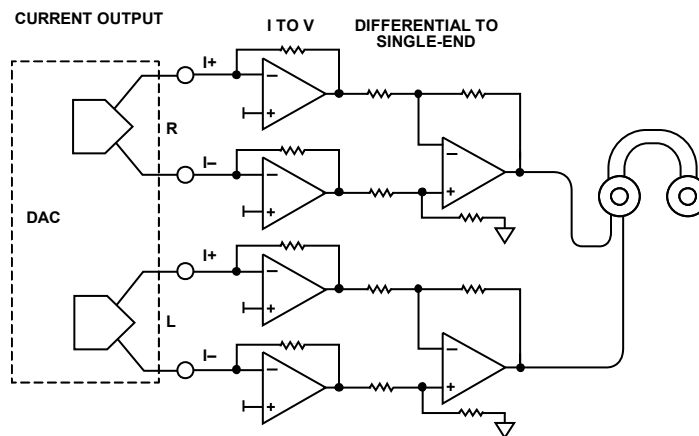
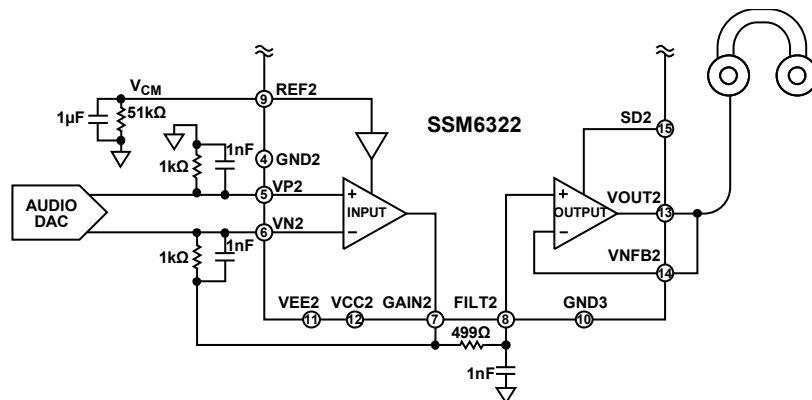

Figure 41. Current Output DAC Configuration
Figure 46. SSM6322 Circuit with Current Output DAC
For a current output configuration, implement an current to voltage (I to V) circuit to convert the differential current signal from the R channel and the L channel to the differential voltage signal, followed by a difference amplifier circuit (see Figure 41).
Current output audio DACs are typically used to achieve the best THD + N performance (see Figure 41). Six amplifiers and many passive components are required to perform current mode signal conditioning, which consumes more PCB area and more power. Area consumption and power consumption are important considerations in mobile phone applications.
In a typical current output DAC signal chain (see Figure 41), four amplifiers are configured as an I to V circuit. The non-inverting inputs are connected to a dc voltage that is the output common-mode level of the DAC, making the voltage at the I+/I- terminals a dc signal. This signal makes the voltage drop at two internal source resistors of the DAC ( $R_{S1}$  and  $R_{S2}$ ) the same, which makes the DAC achieve the best distortion performance.
For an audio DAC with a differential current output, two gain resistors convert the current to voltage (see Figure 46). The resistor value is determined by the DAC output full-scale current and the input stage output range (the output range is  $\pm 3\text{ V}$  at a  $\pm 5\text{ V}$  supply). Assuming that the DAC single-ended output current is  $\pm 1.5\text{ mA}$ , and that the differential current is  $\pm 3\text{ mA}$ , the output of the input stage is  $\pm 3\text{ V}$  when using two  $1\text{ k}\Omega$  gain resistors. The feedback capacitors, in parallel with the gain resistors, form a single-pole, low-pass filter. The SSM6322 can handle up to a  $1\text{ k}\Omega$  and  $2.2\text{ nF}$  resistor capacitor combination.
A  $499\text{ }\Omega$  resistor and  $1\text{ nF}$  capacitor can be added between the input stage and output stage for a second single-pole, low-pass filter, as shown in Figure 46.
- The SSM6322 circuit is different with a typical current output DAC signal chain (see Figure 41); there is only one op amp that performs the differential I to V conversion. The power across the noninverting grounded resistor is fixed, but the power across the feedback resistor varies with the output signal. This variability creates a mismatch between the two resistors, as well as distortion if the heat cannot be well dissipated. Low drift (25 ppm/°C) metal film or thin film resistors are suggested to avoid this situation (see Figure 46).